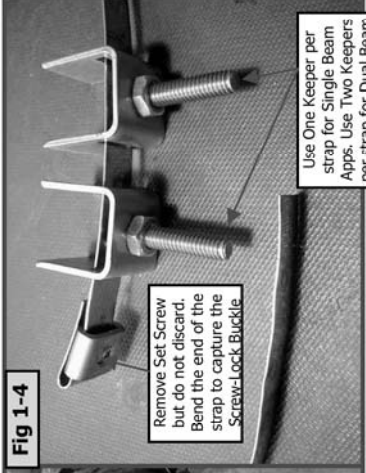

Fig 1-4
- Prepare straps for mounting. Cut strap to length. Strap length should be twice the pipe circumference plus 6 inches. Orient all hardware to the outside of the radius. Remove setscrew from Screw-Lock Buckle. Retain for later use. **See Fig 1-4** (Note: For Reflect mode, install one keeper for each path (i.e. Dual Beam Reflect will have two keepers at each strap location). For Direct-X mode install two keepers at each strap location.)